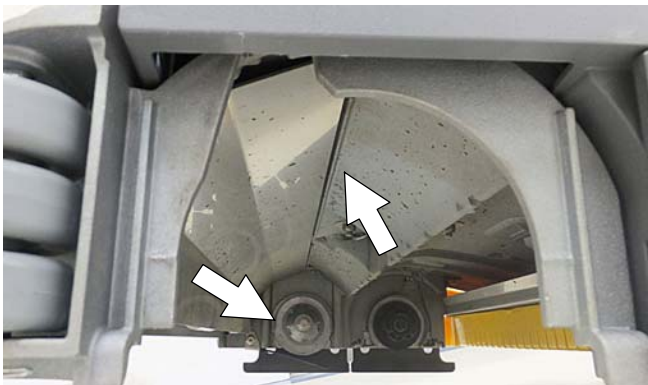

FIG. 113
3. Cylindrical scrub head - Remove debris buildup from underside of scrub head, including the idler plates and drive hubs (Figure 113).